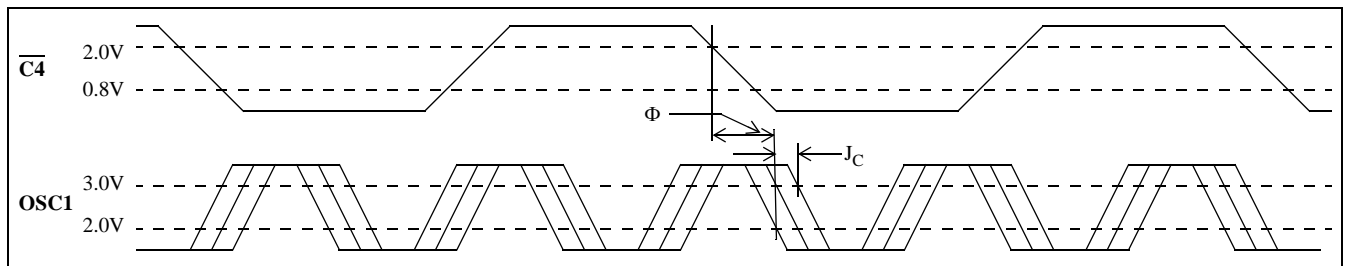

Figure 17 - Frequency Locking for the $\overline{C4}$ and OSC1 Clocks in MAS/DN Mode
2) When operating in MAS/DN Mode, the $\overline{C4}$ and Oscillator clocks must be externally frequency-locked (i.e., $F_C = 2.5 \times f_{C4}$). The relative phase between these two clocks (Φ in Fig. 17) is not critical and may vary from 0 ns to t_{C4P} . However, the relative jitter must be less than J_C (see Figure 17).